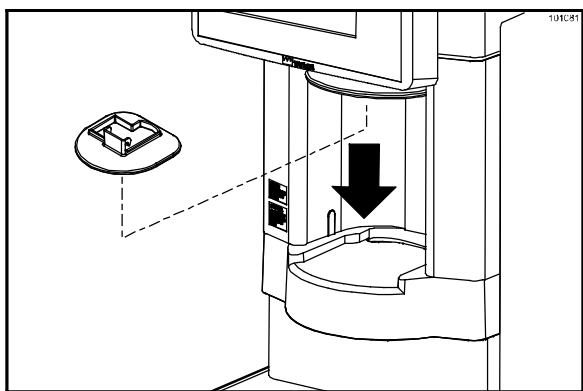

Figure 18
2. Remove the splash guard and take it to the 3-compartment sink for cleaning. (See Figure 18.)